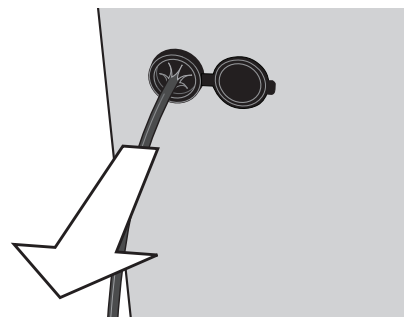

Figure 3, Exterior View
- After removing knock-out, insert Power Pass™ rubber grommet. Do NOT insert extension cord through hole without grommet in place (see figure 3).
4. When passing cords into the box, be sure to always enter box from the rear. After head of cord is in place, slightly pull back 2-3" to ensure weather resistant "star bursts" are facing toward the outside of box (figure 3). Never push the cord from inside the box so that mating plug points are exposed to the environment